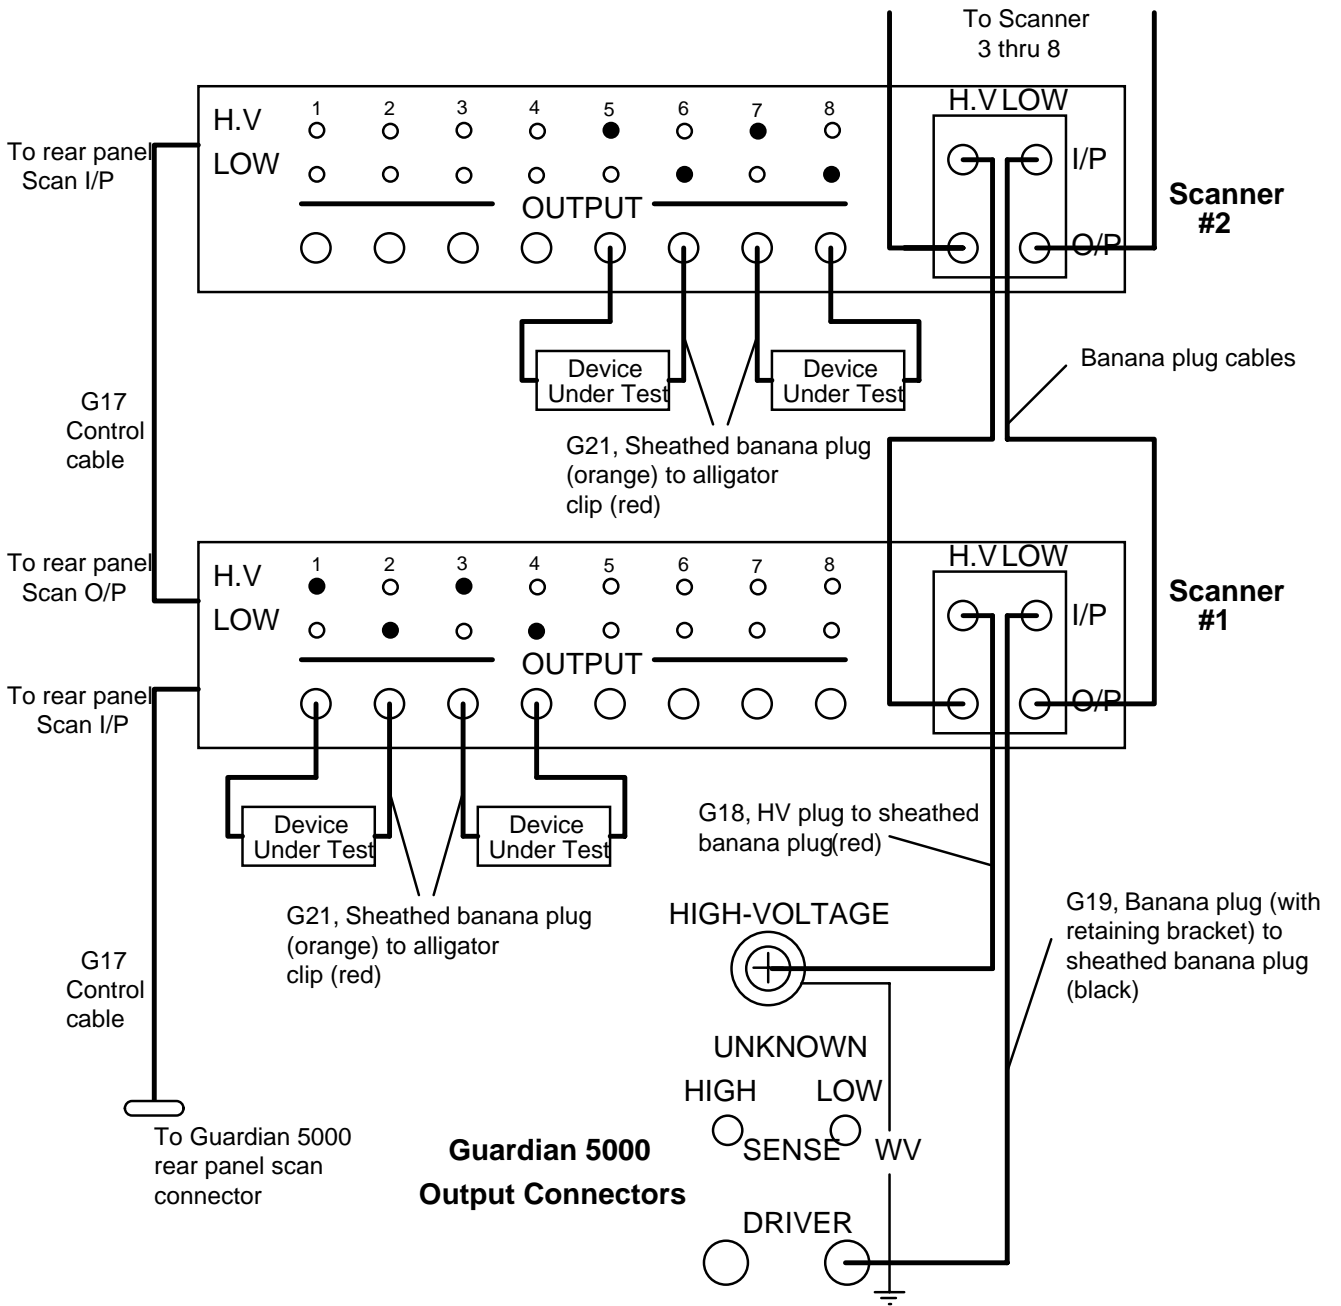
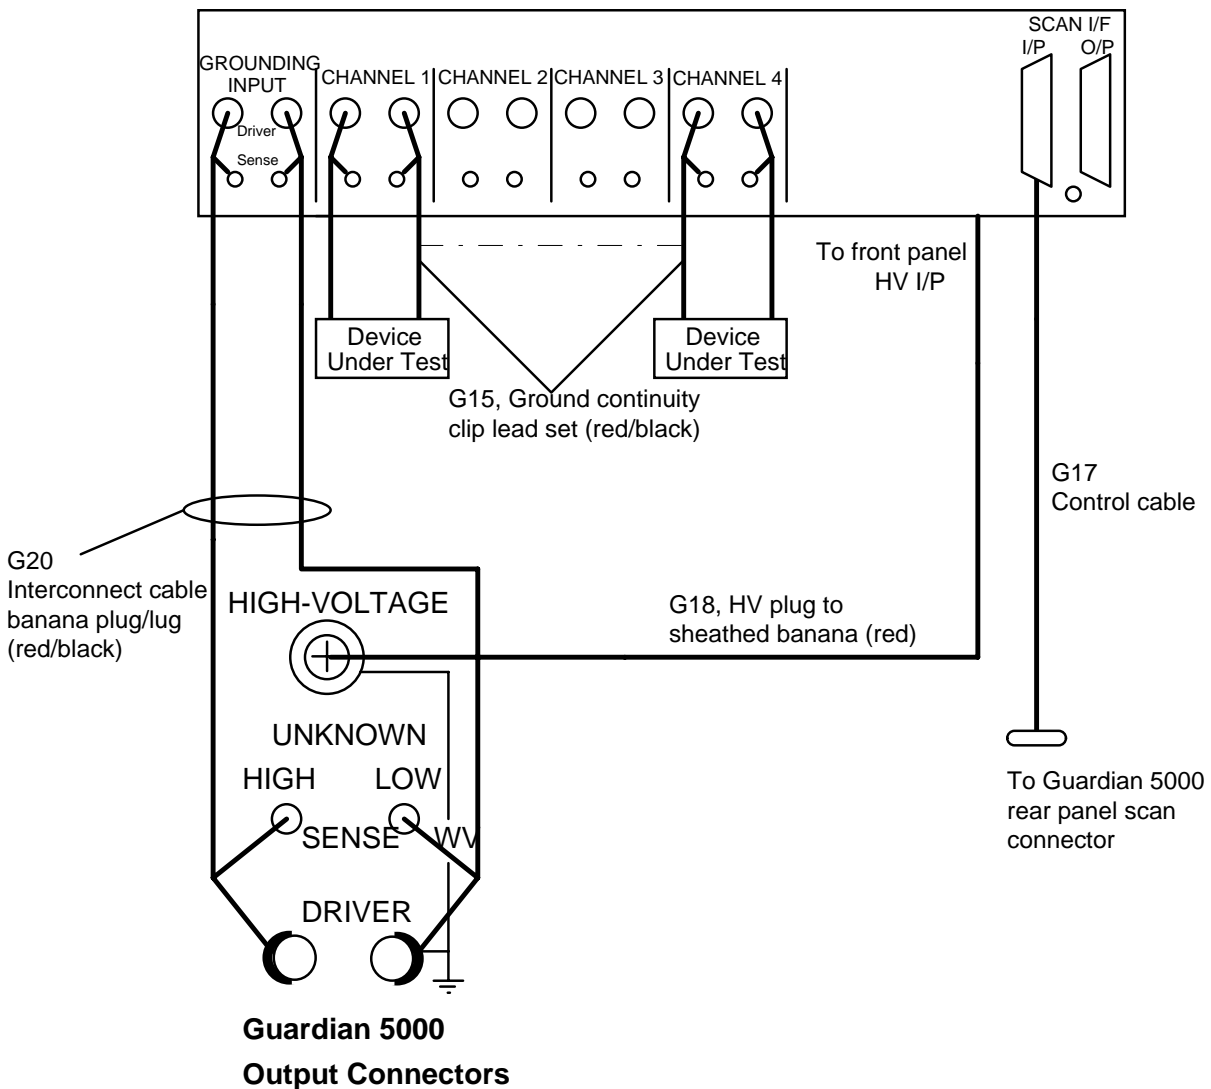

Figure 3-2
Figure 3-3: 5000-02 Scanner Connection
Refer to the diagrams that follow for a typical scanner connection. Figure 3-2 is connection to the 5000-01 for hipot or insulation resistance (IR) tests. Figure 3-3 is connection to the 5000-02 for ground continuity (GC) testing as well as Hipot or IR testing.
Programmed Scanner Connections as Shown in Figure 3-2
When the scanner is programmed for multiple connections in the same test step the devices under test are connected in parallel (as shown in Figures 3-3 and 3-3). To test several devices independent from each other, requires an individual test step (1 to 15) for each. Refer to paragraph 2.5
Programmed Scanner Connections as Shown in Figure 3-3